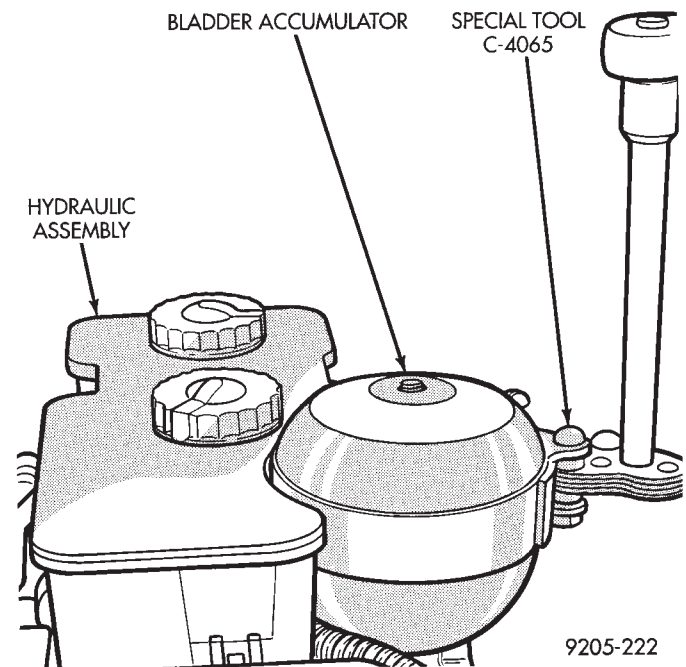

Fig. 16 Remove And Install Bladder Accumulator
(2) Using Oil Filter Band Wrench, Special Tool C-4065 or equivalent loosen bladder accumulator. Then remove the bladder accumulator and brake fluid shield from the hydraulic assembly (Fig. 16).
(3) Using Oil Filter Band Wrench, Special Tool C-4065 or equivalent, (Fig. 16) torque the bladder accumulator to 48 N•m (35 ft. lbs.)
(4) Turn ignition switch to the run position to energize the pump/motor assembly and pressurize hydraulic system. Check for leakage at the hydraulic assembly to hydraulic bladder accumulator fitting.
(5) Again de-pressurize the accumulator by pumping the brake pedal a minimum of 40 times as described in De-Pressurizing Hydraulic Accumulator in this section of the manual.